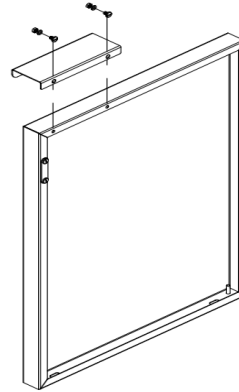

Fig. 2
2. Assemble the door handle using 2 screws B, 2 washers C and 2 nuts D (Fig.2).